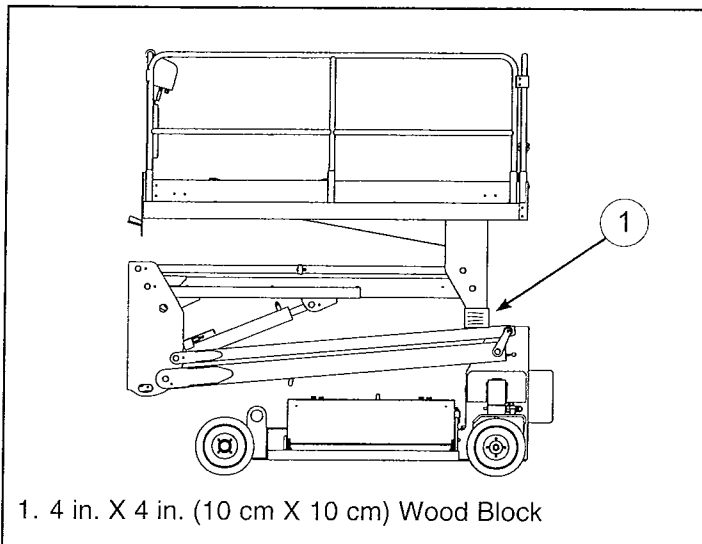

Figure 3-1: Blocking the Elevating Assembly
3.2 Blocking Elevating Assembly (Figure 3-1)
3. Place 4 in. X 4 in. (10 cm X 10 cm) wood block as shown in Figure 3-1.